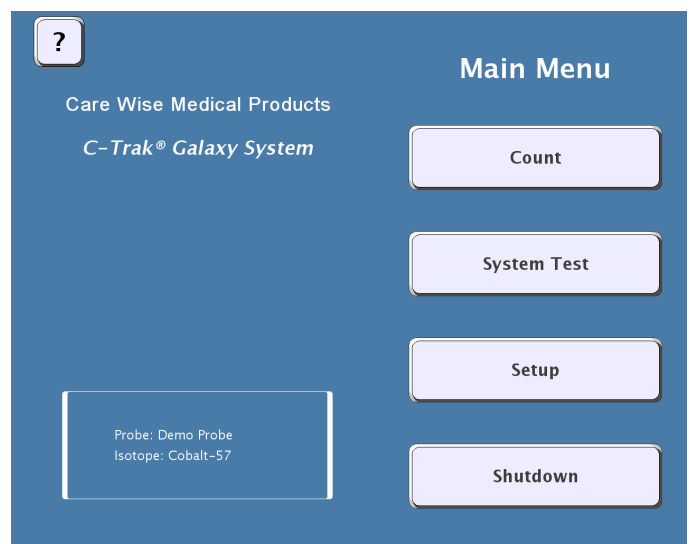
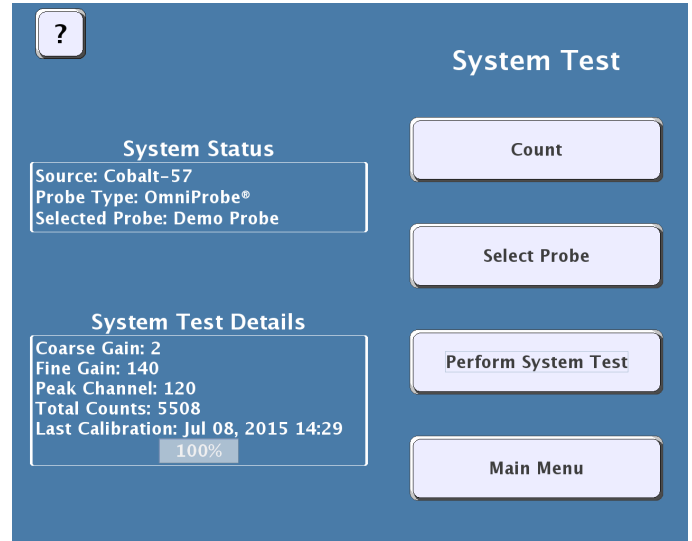

Figure 11 – Main Menu Screen
Figure 12 – System Test Screen
- (8) **Main Menu Button** – Pressing this button directs the user to the MAIN MENU [Figure 11], described in 2.4-6.
The Main Menu [Figure 11], allows the user to navigate to the Count Screen (described in 2.4-1), System Test Screen (described in 2.4-7), and Setup Screen (described in 2.4-8), and also allows the user to turn off the C-Trak® Galaxy System’s power using the “Shutdown” button, (described in 2.4-13).
On the System Test Screen [Figure 12], reached from the Main Menu [Figure 11], a user can calibrate and test all functionality of the Galaxy system. When a user presses PERFORM SYSTEM TEST, the Galaxy system will both calibrate and test the system.